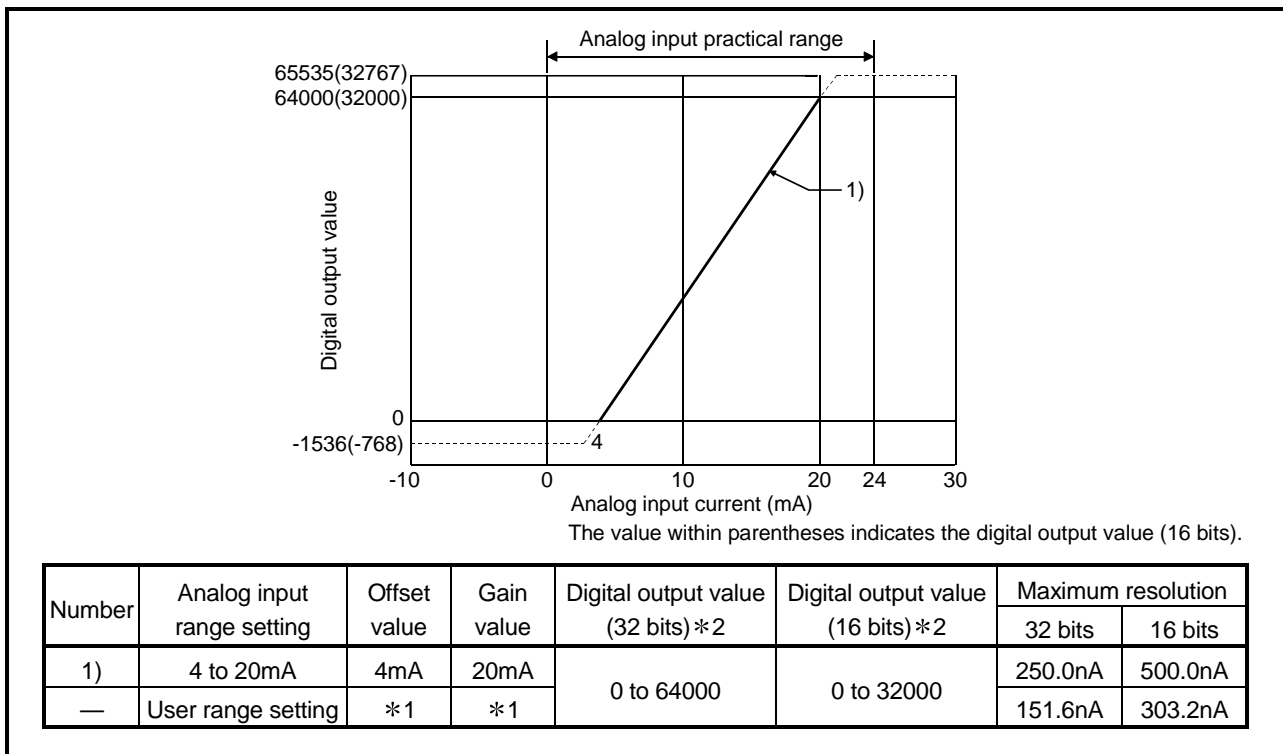

Fig. 3.3 Input characteristic of Q62AD-DGH
Fig. 3.3 shows a graph of the Q62AD-DGH input characteristic.
(1) Set within the analog input range and digital output range for each input range. If these ranges are exceeded, the maximum resolution and accuracy may not fall within the performance specifications. (Avoid use in the dotted area of Fig. 3.3.)
(2) Set the offset/gain values for the user setting range *1 within a range in which the following conditions are satisfied. <div> (a) Gain value $\leq 24\text{mA}$, offset value $\geq 2\text{mA}$ (b) { (gain value) - (offset value) } > 9.70mA </div>
(3) When an analog value that exceeds the range of the digital output value *2 is entered, the digital output value will be fixed at the maximum or minimum value.